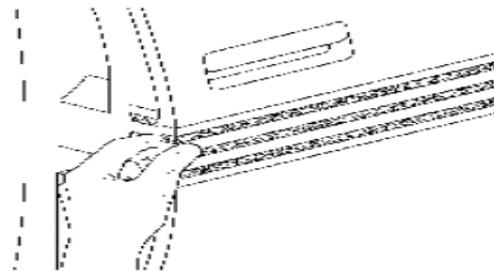

Figure 18. Applying Striping With a Wrap
- c. Wrap firmly and squeegee the film to the back of the substrate. Avoid trapping air in this area. See Figure 18.